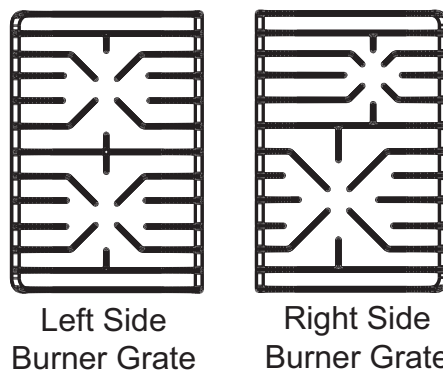

Figure 3: Grates for Free-standing Models
4. Push top rack the rest of the way in (See Figure 3).